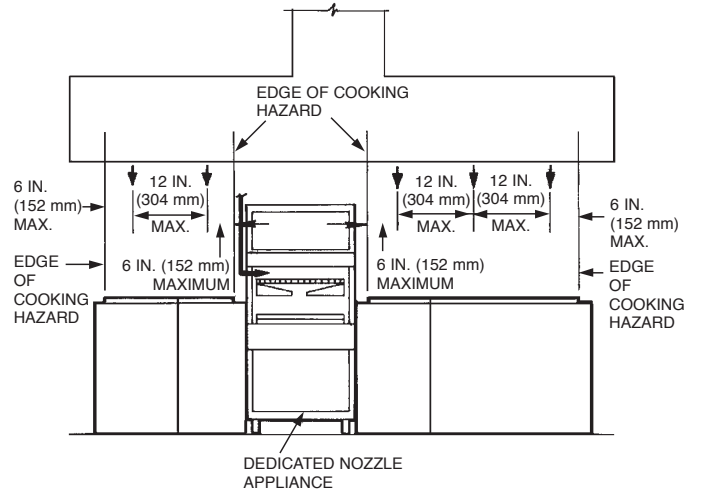

FIGURE 4-111
3. When an appliance requires dedicated protection with a protected area intended for overlapping appliance nozzle protection, the group protection option will be required for appliances on either side of the appliances using dedicated protection. Group protection using overlapping appliance nozzles must begin with the protected appliance(s) adjacent to the dedicated appliance protected. An overlapping appliance nozzle(s) must be positioned within 6 in. (152 mm) of the edge(s) of the appliance hazard surface area(s) adjacent to the dedicated nozzle protection. See Figure 4-111.